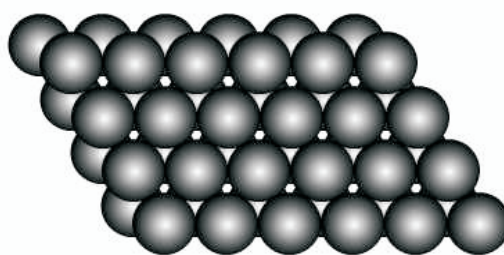

Fig. 6.13 : Two layers of close packed spheres, the second layer occupies only one type (either X or Y) of trigonal voids in the first layer.
2. In other, the spheres of the second layer are in such a way that these are on the depressions of the first layer. The first possibility is similar to square close packing discussed above and is accompanied by wastage of space. In the second possibility when we place the second layer into the voids of the first layer, the spheres of the second layer can occupy either the X or Y type trigonal voids but not both. You may verify this by using coins of same denomination. You would observe that when you place a coin on the trigonal void of a given type, the other type of void becomes unavailable for placing the next coin (Fig. 6.13).